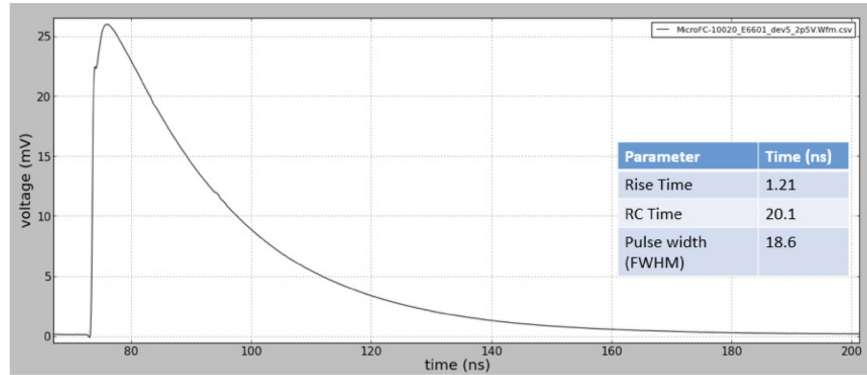

Figure 2.1: A typical SiPM pulse. Given the scale, I estimate this is about 100 photons given a gain of 4×10^6 .
- **I have +30V going to the SiPM, but I don't see any 10mV, 100ns pulses out of the BNC connector (example pulse shown in Fig. 2.1).** First make sure that you are correctly setting up the oscilloscope; set the vertical scale to 10 mV per division and the horizontal scale to 200 ns per division. Set the trigger to 10 mV on the correct channel. I also set the trigger to Normal rather than Auto. You should see pulses triggering the oscilloscope at the hertz level. If you still don't see anything, your problem is with the SiPM PCB. You likely have one of two issues. The smallest light leak will cause problems. Small light leaks will look like a lot of noise on the oscilloscope. Add some additional tape, look for holes in the corners, et cetera. Otherwise, the problem could be with the SiPM, which isn't great, since you have to unwrap the scintillator to check it. The most common problem is that you mounted the SiPM in the incorrect orientation, or a poor connection on the SiPM. Before wrapping up the SiPM scintillator, it's good to check that you have approximately a 0.5 V voltage drop between the Anode and Cathode of the SiPM PCB. This is a good way to test if your SiPM is connected.